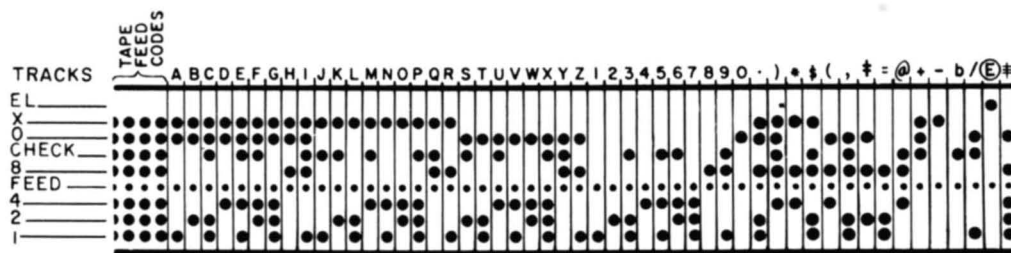

Figure 6. Paper Tape Codes
Data is punched and read as holes in a 1-inch-wide chad paper tape (in chad paper tape the holes are completely punched out) at a density of ten characters to the inch. An 8-track paper tape code is used. Seven positions, or tracks, across the width of the tape are used for coding numeric, alphabetic, and special characters. One track is used for end-of-line (EL) characters. Figure 6, representing a section of paper tape, illustrates the eight tracks and all coded characters.